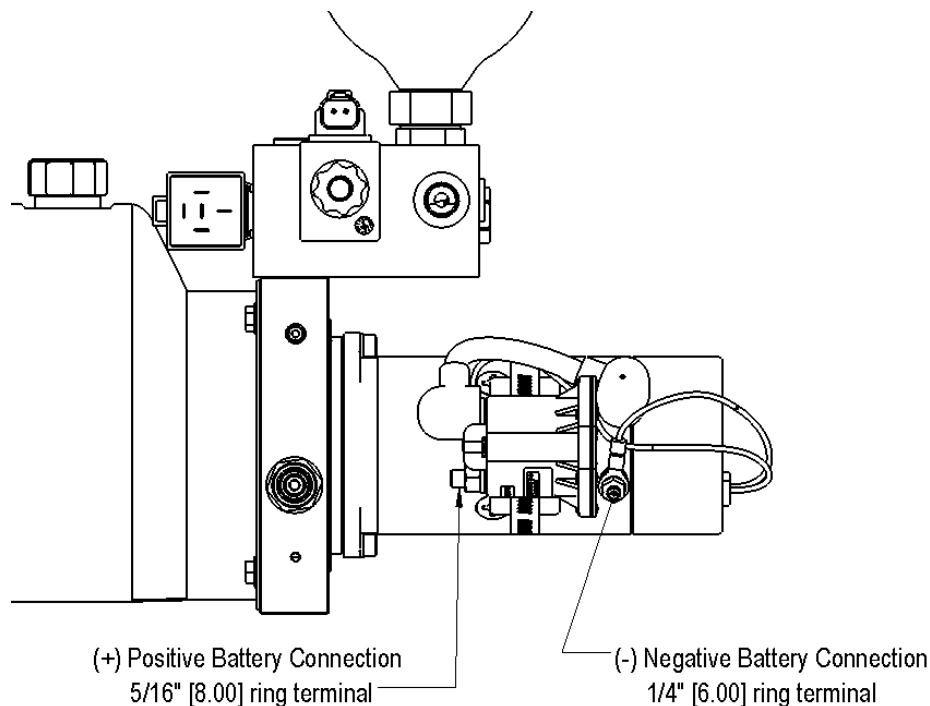

Figure 6
5.2.9. Connect the primary (+) positive and (-) ground terminals to power the HPU. Use battery cable capable of meeting minimum, twice the amperage requirement shown in the product specifications. Consult an electrician for the appropriate wire gauge. See Figure 6